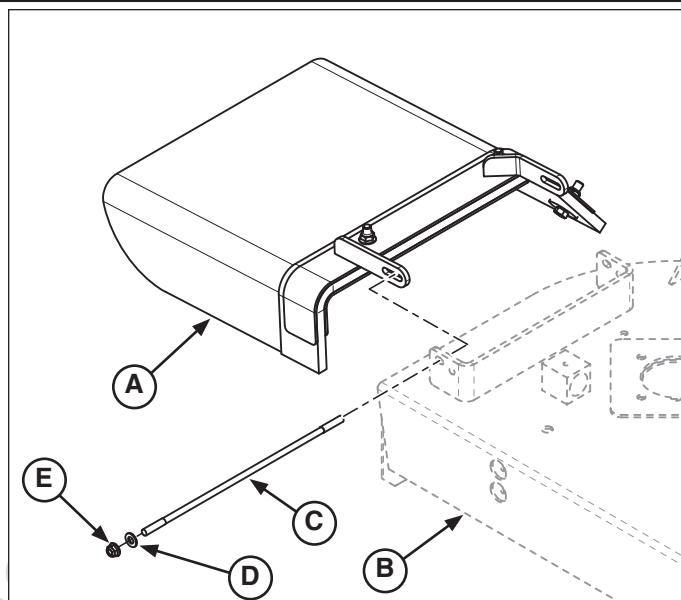

Figure 1. Installing the Baffle Plates
2. Remove the 5/16" nuts (E, Figure 1) and washers (D) from the discharge chute rod (C). Remove the discharge chute rod from the mower deck (B).
3. Remove the discharge chute (A) from the mower deck.